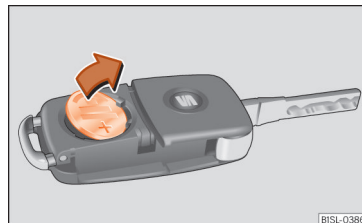

Fig. 88 Vehicle key: remove the battery.
- Extract the battery from the compartment using a suitable thin object » Fig. 88.
- Place the new battery in the compartment as shown » Fig. 88, pressing in the opposite direction to that shown by the arrow » i.